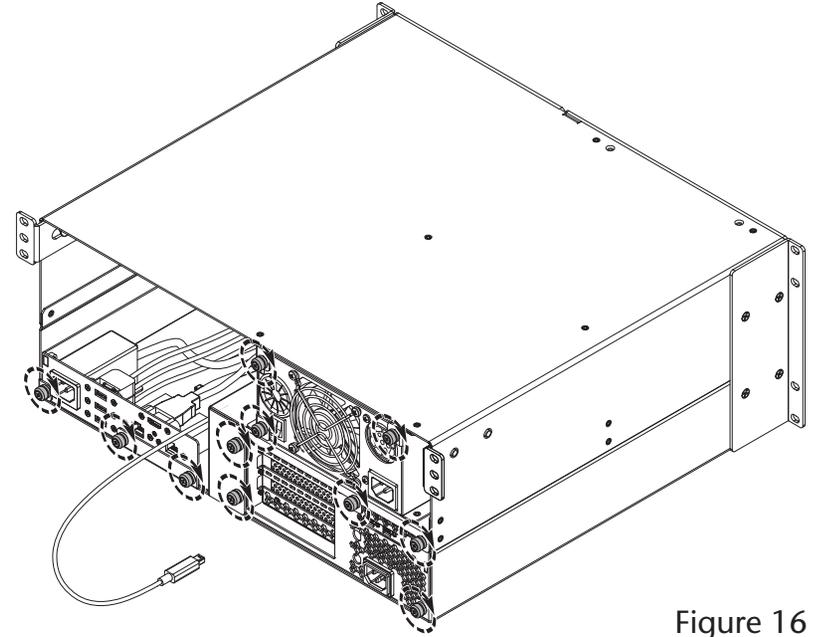

Figure 16
12. Secure the computer mounting module, PCIe card expansion module, and the mobile rack device mounting kit to the back of the rackmount enclosure by turning the eleven thumbscrews clockwise (**Figure 16**).